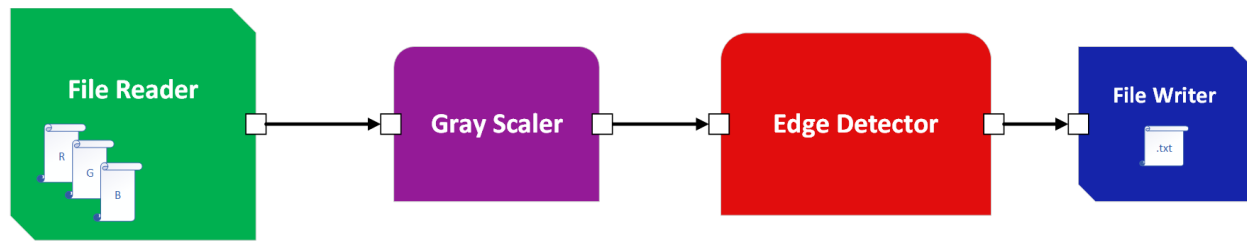

Fig.3
**Part 1)** This system comprises of four modules (as shown in fig. 3). The first one (*File Reader*) is responsible for opening RGB text files and send pixels to *Gray Scaler* via a channel. The RGB pixel colors' values of input picture are written in three separated files, and the picture size is 512×512. This module reads all pixel values from external image files and stores them in separated